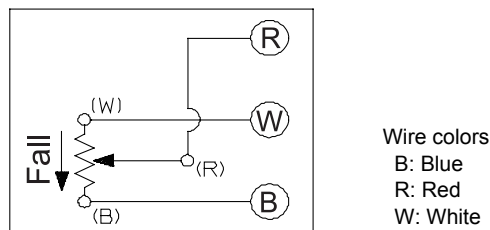

Figure 18. Internal connection diagram
- 3) Connect the lead wires of Neostat and the wires from the load. (See Fig. 18.)
- 3) Connect the lead wires of Neostat to the wires from the load. (See Fig. 18.)
- 4) Connect the lead wires of the Neostat to the wires from the load. (See Fig. 18.)